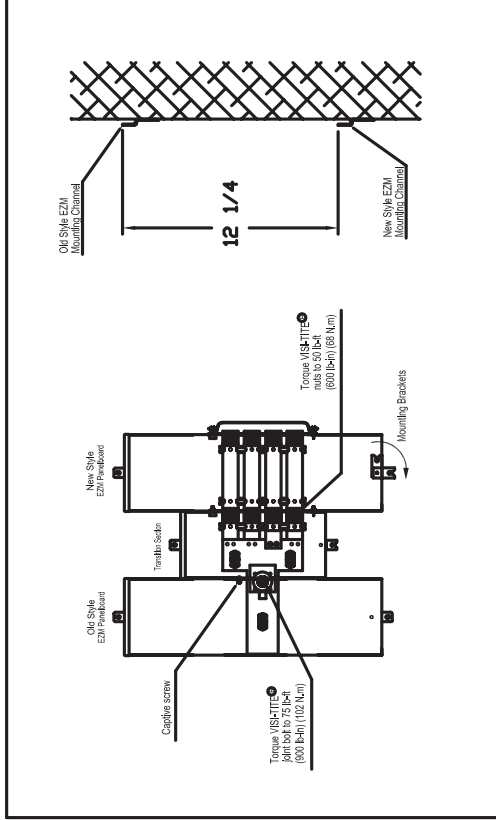
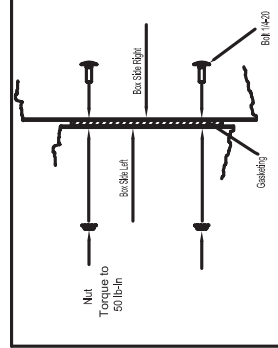
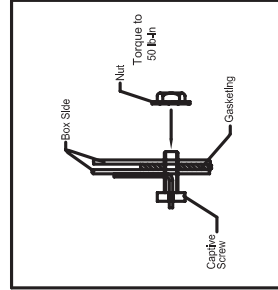

Figure 1: Mounting Diagram
Figure 2: Installing Screw and Nut 1/4-20
Figure 3: Installing the Nut onto the CapScrew
- 4.- Rotate the mounting brackets out from behind the box (refer to figure 1).
- 5.- Place the transition section so that the window and the holes located in the left side of the box align with the window and the holes located in the right side of the old style EZM panelboard (refer to figure 1). Fasten the enclosure together with two 1/4-20 screws and two hex nuts provided in the bag assembly (refer to figure 2). Slide the 1/4-20 capScrew in the right side of the old style EZM panelboard through the hole in the box side and gasketing until the threads engage in the 1/4-20 hex nut provided in the bag assembly (refer to figure 3). All three screws and nuts must be tightened to 50 lb-in for adequate bonding. Do not overtighten.
- 7.- Position the slider joint-pak of the old style EZM panelboard by aligning the index mark with the inside wall of the box (refer to figure 1), and tighten the VSI-TITE joint bolt until the outer head twists off. If the red disk is visible, the joint is not tight. For maintenance or relocation, tighten to 75 lb-ft (900 lb-in) (102 N-m) with a torque wrench.
- 10.- Secure the mounting channel of the new style EZM panelboard to the wall at a distance of 12 1/4 inches below the position of the mounting channel of the old style EZM panelboard. Use the top of both channels as reference (refer to figure 1).
- 11.- Rotate the mounting brackets of the new style EZM panelboard out from behind the box to the mounting position (refer to figure 1). Hang the new style EZM panelboard on the mounting channel.
- 14.- Slide the three 1/4-20 capScrews in the right side of the transition section through the holes in the box side and gasketing until the threads engage in the 1/4-20 nuts provided in the bag assembly (refer figure 3). All three screws and nuts must be tightened to 50 lb-in for adequate bonding. Do not overtighten.